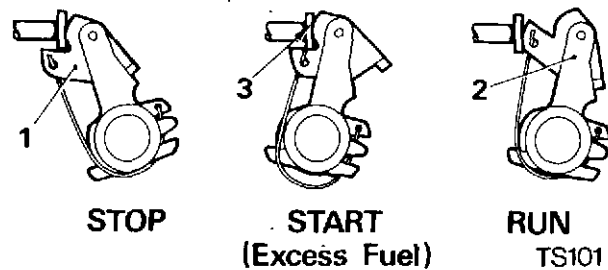

Fig. 42 Auto Excess Fuel Device (earlier engines)
To adjust or check the settings, it is necessary to remove the fuel pump inspection doors and the end cover. The auto excess fuel device (Fig. 42) should be in the START position and the end of the camshaft gently tapped towards the flywheel in order to take up any end play.
The engine is fitted with an auto excess fuel device (Fig. 42) fitted with a spring loaded cam (1) which together with the movement of the lever (2) varies the distance between the centre line of No. 1 fuel pump and the edge of the governor linkage abutment (3). The three positions available are 'ENGINE STOP', 'EXCESS FUEL FOR STARTING' and 'ENGINE RUN'.